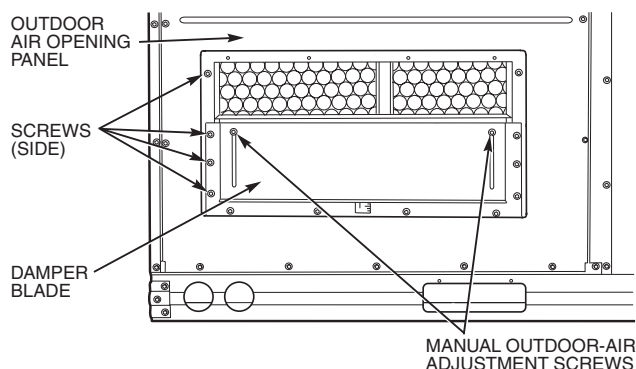
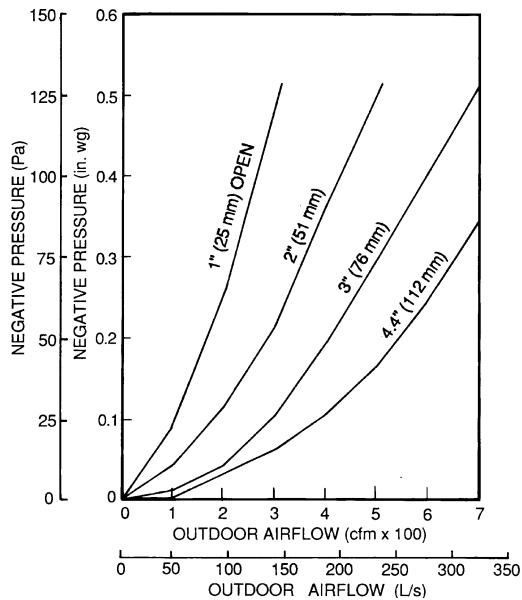

Fig. 17 — Damper Panel with Manual Outdoor-Air Damper Installed
Fig. 20 — Position Setting (50TFF007 Units)
2. Remove filter access panel by raising panel and swinging panel outward. Panel is now disengaged from track and can be removed. No tools are required to remove filter access panel. Remove and save outdoor-air opening panel and screws. See Fig. 17.
9. Adjust minimum position setting of the damper blade by adjusting the manual outdoor-air adjustment screws on the front of the damper blade. See Fig. 17. Slide blade vertically until it is in the appropriate position determined by Fig. 20 or 21. Tighten screws.